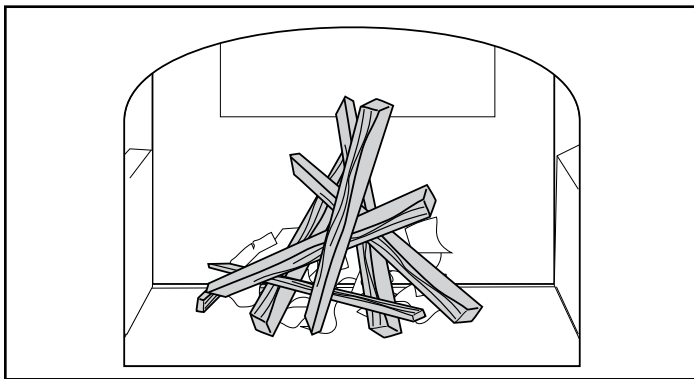

Figure 34 - Start the fire with newspaper and dry kindling.
2. Place several sheets of crumpled newspaper in the stove. Place six or eight pieces of dry kindling split to a finger-width size on the paper. On the kindling, lay two or three larger sticks of split dry wood approximately 1-2" (25-51 mm) in diameter. (Figure 34)